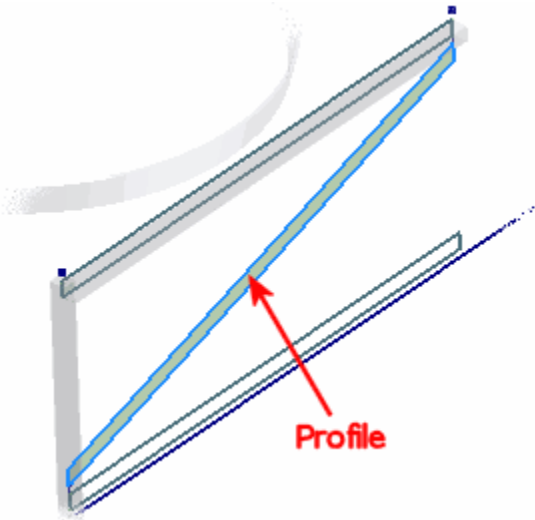

Figure 14: Diagonal tube profile.
5. Extrude the profile highlighted in Figure 14 by first linking the extrusion distance to the derived TubeSize parameter.